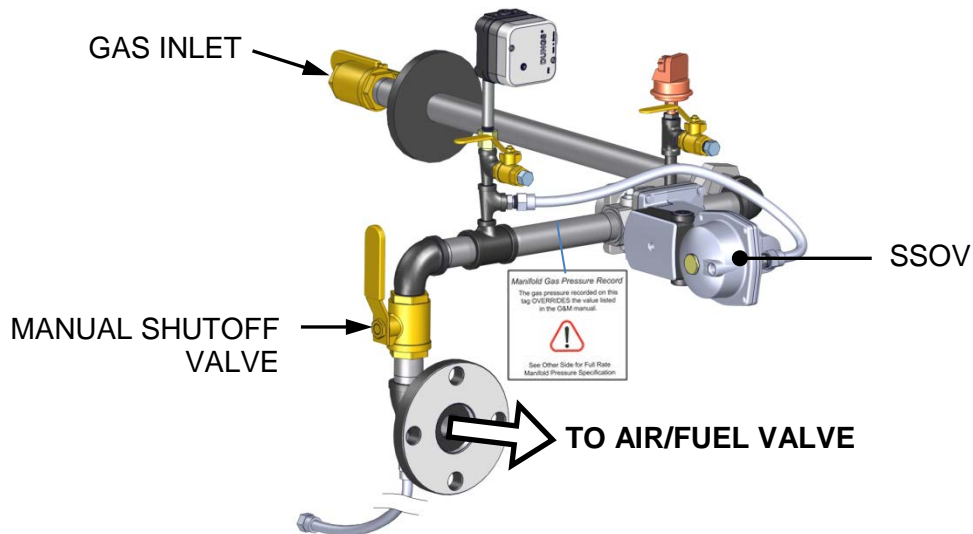

Figure 3-3. SSOV Location (INN600–1060 Gas Train shown)
2. The unit checks to ensure that the **Proof of Closure (POC)** switch in the downstream Safety Shut-Off Valve (SSOV) is closed. See Figure 3-3 for SSOV location.
4. The unit checks to ensure that the **Proof of Closure (POC)** switch in the downstream Safety Shut-Off Valve (SSOV) is closed. See Figure 3-3 for SSOV location.